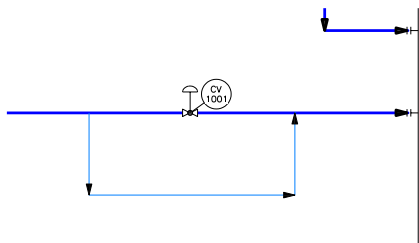

Figure 2-61 Location of the control valve
4. Insert the control valve on the feed line, as shown in Figure 2-61.